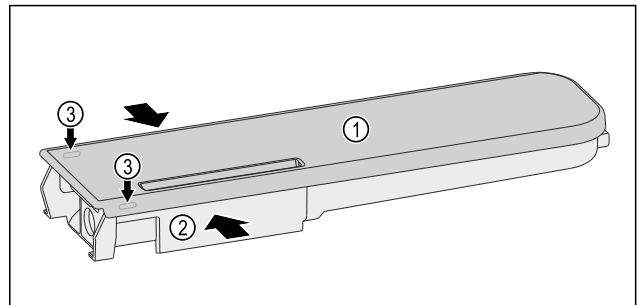

Fig. 117
- Squeeze the water tank Fig. 117 (2) and carefully lever the cover Fig. 117 (1) over the latches Fig. 117 (3) pull it up.
- Slightly move the cover Fig. 117 (1) back and forth and remove it from the top.